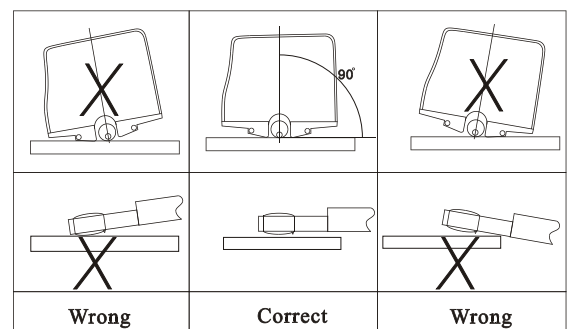
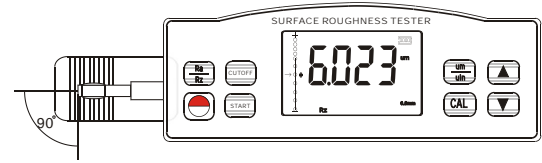

Fig. 4-1
Fig. 4-2
- G. Refer to Figure 4-1 and Figure 4-2 to place the instrument correctly, stably and reliably on the surface to be measured.
- H. Refer to Figure 4-2, the sliding trail of the sensor must be vertical to the direction of process line of the measured surface.